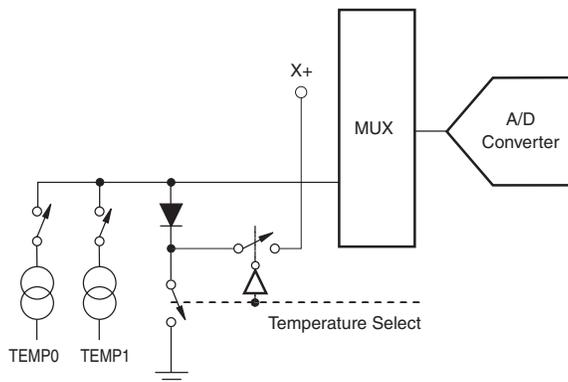

Figure 8. Temperature Measurement Mode Functional Block Diagram
The first mode requires calibrations at a known temperature, but only requires a single reading to predict the ambient temperature. A diode is used during this measurement cycle. The voltage across the diode is connected through the MUX for digitizing the diode forward bias voltage by the ADC with an address of C3 = 0, C2 = 0, C1 = 0, and C0 = 0 (see Table 1 and Figure 8 for details). This voltage is typically 600 mV at 25°C, with a 20- $\mu$ A current through it. The absolute value of this diode voltage can vary a few millivolts; the temperature coefficient (TC) of this voltage is very consistent at  $-2.1$  mV/°C. During the final test of the end product, the diode voltage would be stored at a known room temperature, in memory, for calibration purposes by the user. The result is an equivalent temperature measurement resolution of 0.3°C/LSB.